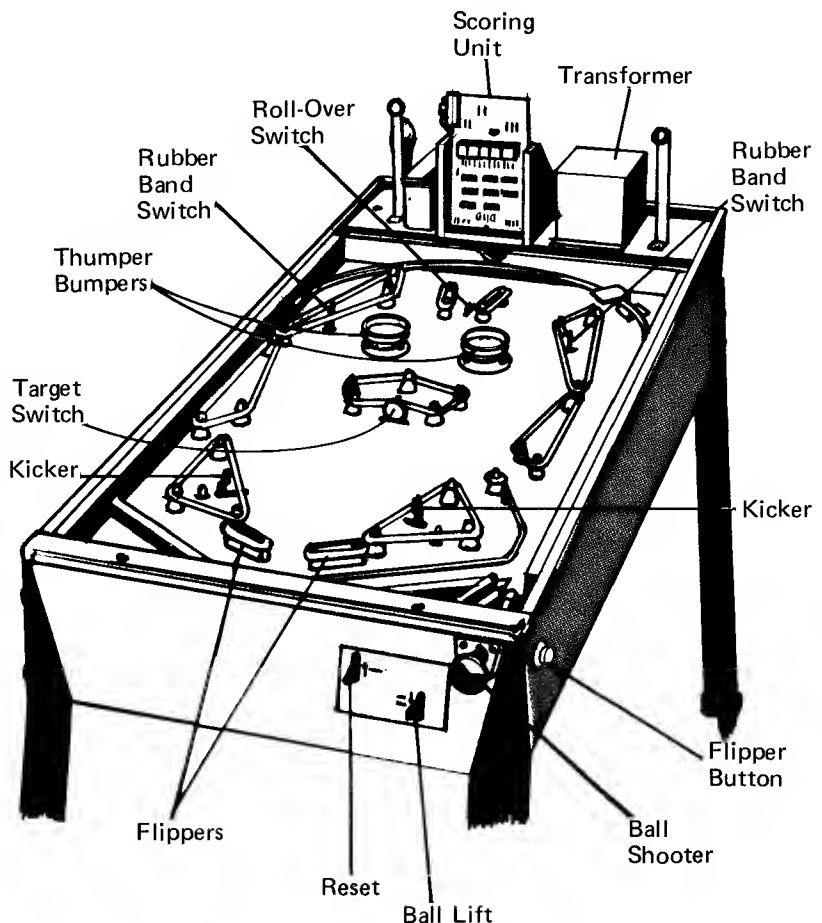

FIGURE 1
Basically, this Home Pinball Game is a combination of **levers, switches, lights, and solenoids** that operate on low voltage (6 volts or 28 volts). The game has three main operating sections: (1) the **Score Unit Assembly**, (2) the **Playfield**, and (3) **Player Controls**. These sections are explained below and refer to Figure 1.
The Score Unit Assembly receives power from the **transformer**, which reduces the high incoming voltage from your home. The transformer is protected by **resettable circuit breakers** which help prevent transformer overload. The transformer also sends out low voltage power to the playfield that operates all the switches and solenoids (28 volts) and all lights (6 volts). The ball rolling on the playfield will close various switches that send signals to the score unit through wires. These wires are combined into what is called an **electrical harness**. The **playfield wires** and the **score unit assembly wires** are connected by an **electrical connector**. (See Figure 1, Page 10)